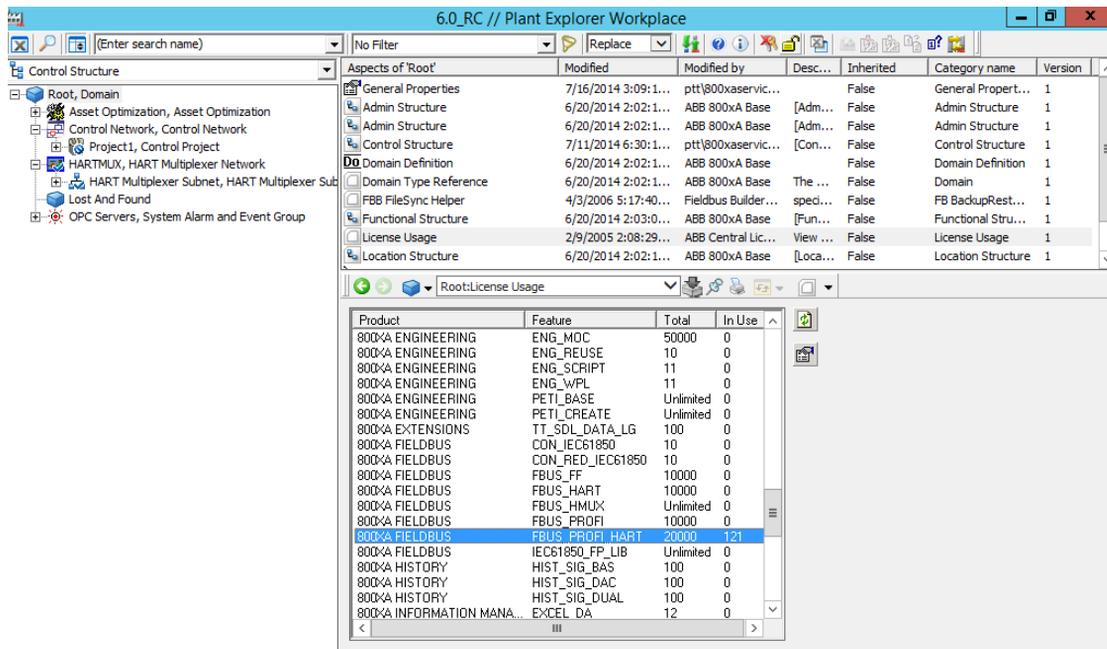

Figure 35. License Usage Aspect in Control Structure
- d. Check the number of licenses used in the system for the 800xA FIELDBUS Profibus and Hart feature. Refer to Figure 35 for more information.